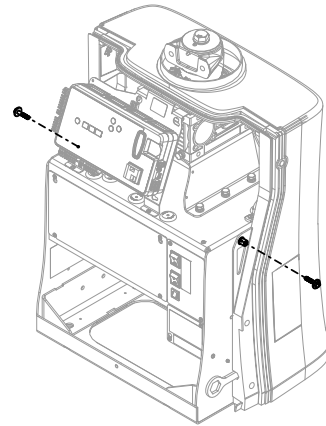

Figure 25. Install M6 Hex Bolts to Latch Posts
3. Install M6 hex bolts at the front cover latch posts (Figure 25). Snug, do not overtighten and crush plastic boss.